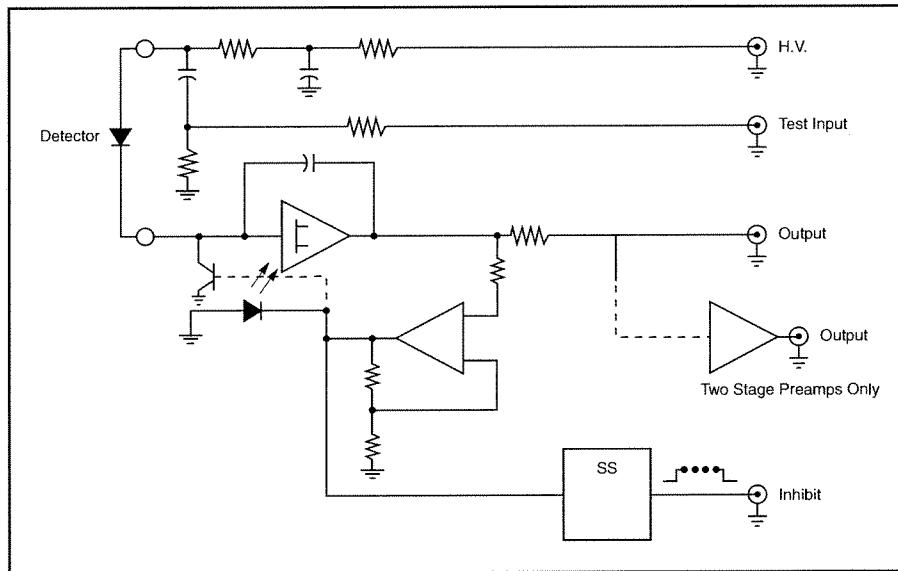

Figure 45 Reset Preamplifier Block Diagram
With a reset-type preamplifier, leakage current determines the quiescent (no sources present) preamplifier reset rate. The reset period ranges from roughly 0.1 second to 1.0 second depending on the size of the detector and on other factors, including the absolute temperature, the FET leakage current, the infrared heat load on the detector element, etc. The reset rate must be measured by using an oscilloscope on the preamplifier output. Figure 45 shows the block diagram for either a Pulsed Optical (PO) or a Transistor Reset (TRP) preamplifier.